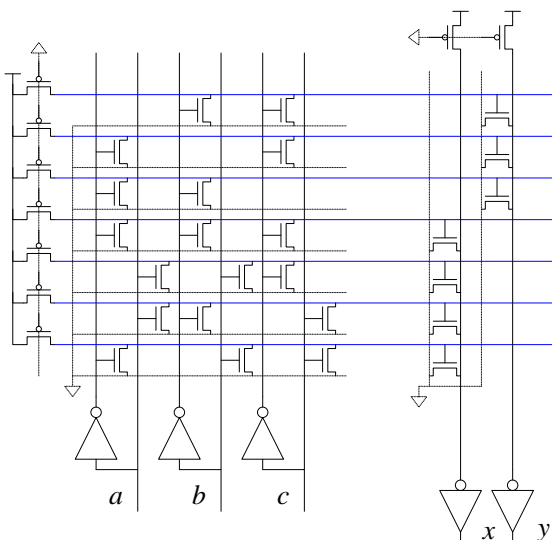

Fig. 12
- (e) Write the Boolean function of x, y in Fig. 12. (2%)